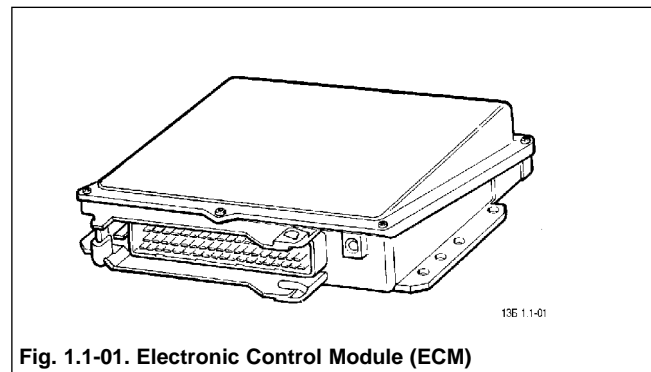
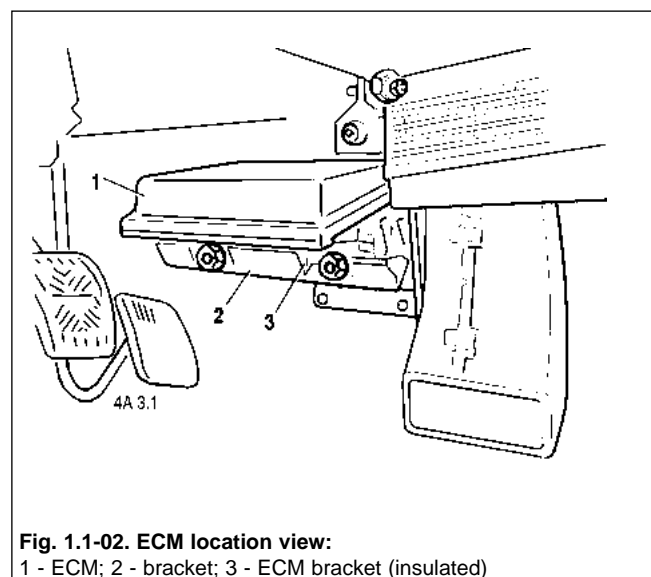

Fig. 1.1-01. Electronic Control Module (ECM)
Fig. 1.1-02. ECM location view:
The Electronic Control Module (ECM) (Fig. 1.1-01) is the control center of the EMS. It receives information from the sensors and monitors numerous functions, thus ensuring optimal engine operation for the vehicle parameters programmed. The ECM (1) is mounted on a bracket (2) inside the instrument panel console (Fig. 1.1-02).
4. Unscrew the nuts of the retaining bolts holding bracket 3 to bracket 2, disconnect the ECM harness connector and remove the ECM (1) (see Fig. 1.1-02).
5. Unscrew retaining nuts and remove the ECM (1) from the bracket (3).